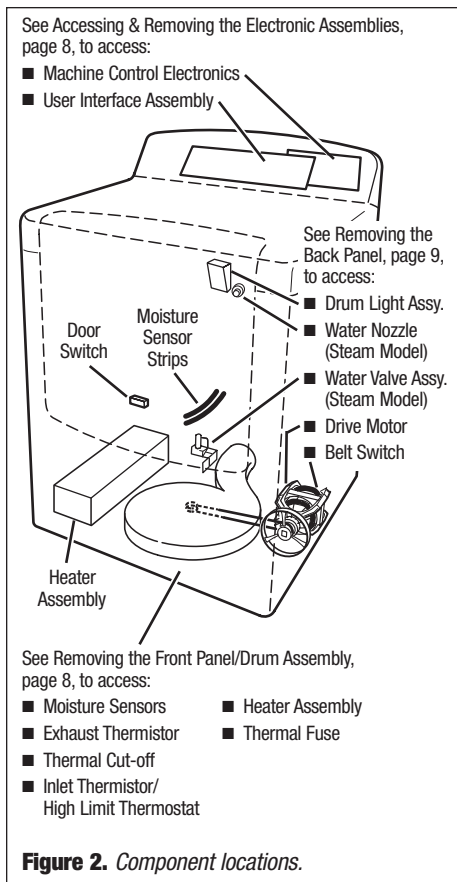
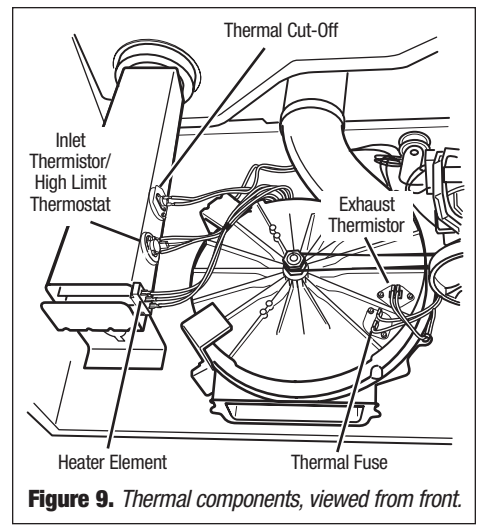

Figure 2. Component locations.
Figure 9. Thermal components, viewed from front.
Some tests will require accessing components. See figure 2, page 4 for component locations.
Locate the components using figure 2, page 4; and figure 9, following.
- Check wire connections at the machine control electronics and thermistor. See Accessing & Removing the Electronic Assemblies, page 8; and for thermistor location, figure 9, page 5.
- Check wire connections at the machine control electronics and inlet thermistor. See Accessing & Removing the Electronic Assemblies, page 8, and for inlet thermistor location see figure 9, page 5.
- Check the resistance of the inlet thermistor. See figure 9, page 5 for location.
2. Access the thermal fuse by first removing the front panel. See Removing the Front Panel/Drum Assembly, page 8; and for thermal fuse location, see figure 9, page 5.
3. Using an ohmmeter, check the continuity across the thermal cut-off. See figure 9, page 5, for location.